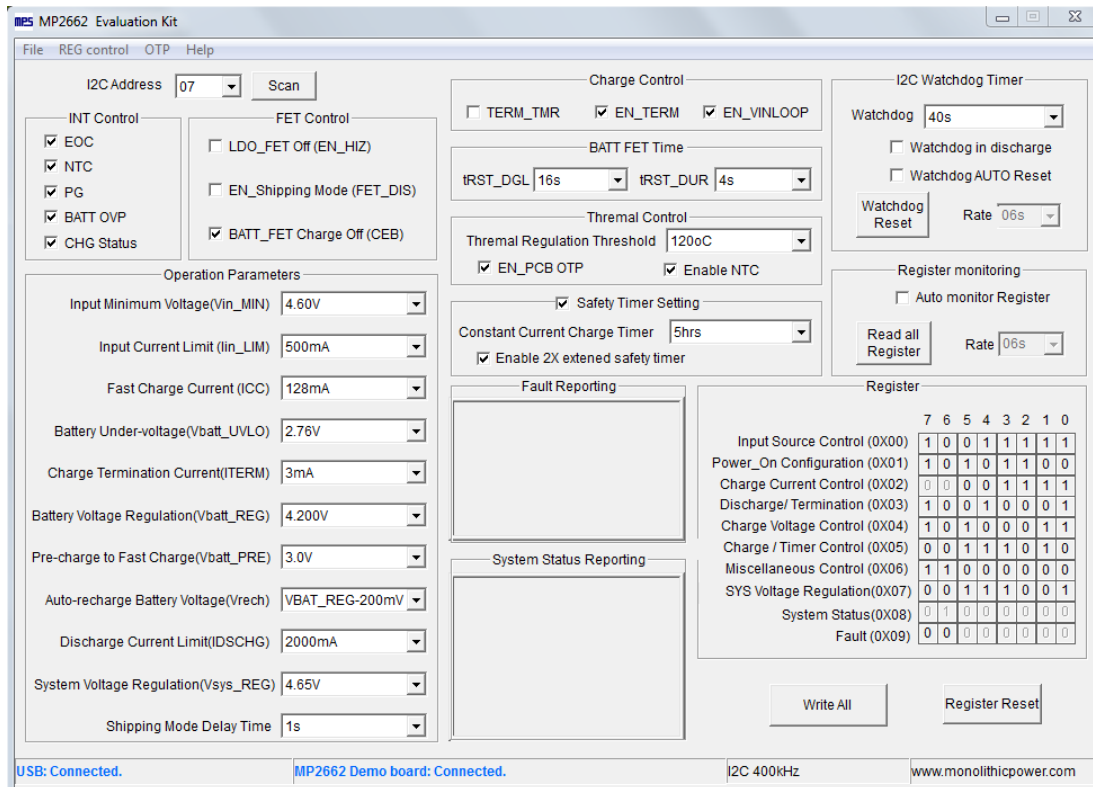

Figure 7: Connected USB and MP2662 Demo Board
- If the connection is successful, both the USB and MP2662 demo board statuses will be listed as “Connected” (see Figure 7).
2. Click the “Read All Register” button to read the I²C register values. The default values should be displayed (see Figure 7).